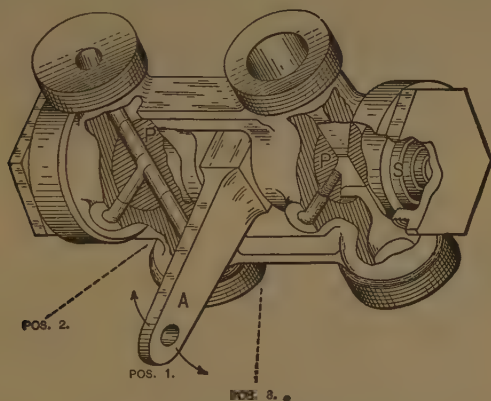

Fig. 212. Baldwin (Vauclain) Combined Starting-Valve and Cylinder-Cock.
A. As shown in figures 212 and 213, there is a casting in which are two taper plugs P, P, one controlling the high-pressure cylinder-cock and the steam for starting, and the other controlling the low-pressure cylinder-cock. These plugs are held in place by springs S and controlled by an arm A operated by a lever in the cab.
In position 1 of the lever, as in figure 212, the starting-valve is open to admit live steam to the low-pressure cylinder, and the cylinder-cocks are open to the atmosphere.
A. As shown in figure 212, when the valve is in starting position, live steam passes across from that